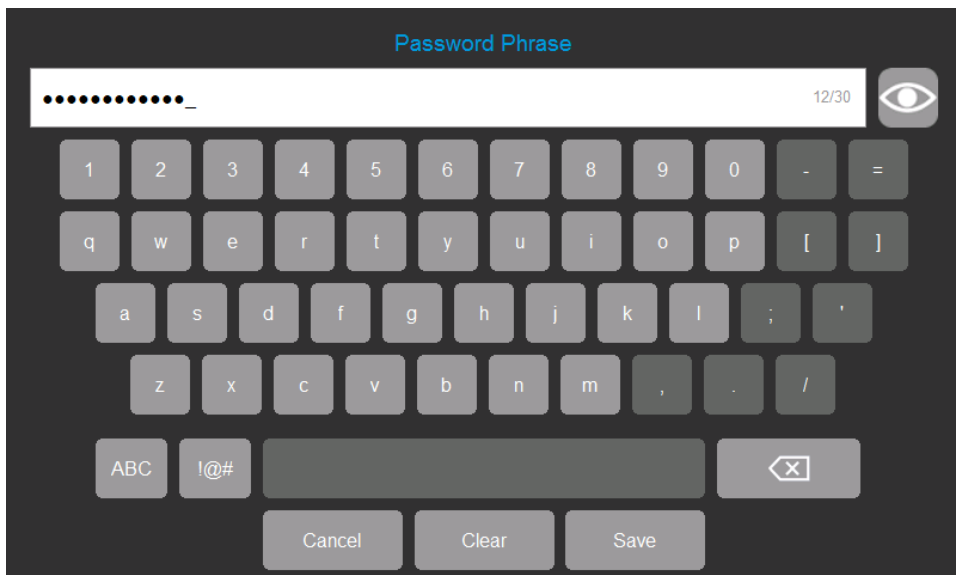

Fig. 72: Password entry screen.
3. Enter the new OEM Password by selecting the blank field. When the keyboard pops up, enter the new OEM password and select Save. Refer to Fig. 72.
5. Enter the new Installer Password by selecting the blank field. When the keyboard pops up, enter the new Installer password and select Save. Refer to Fig. 72.
4. Enter the new Installer Password by selecting the blank field. When the keyboard pops up, enter the new Installer password and select Save. Refer to Fig. 72.
4. Enter the new OEM Reset Password by selecting the blank field. When the keyboard pops up, enter the new password and select Save. Refer to Fig. 72.